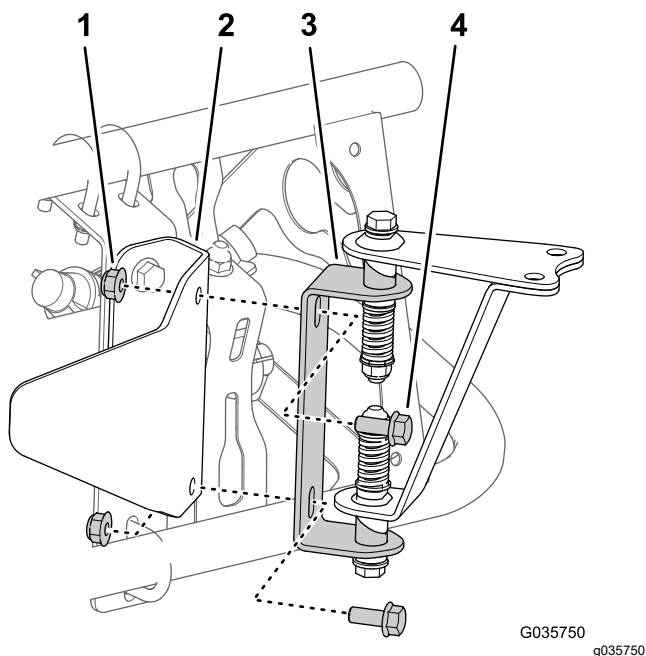
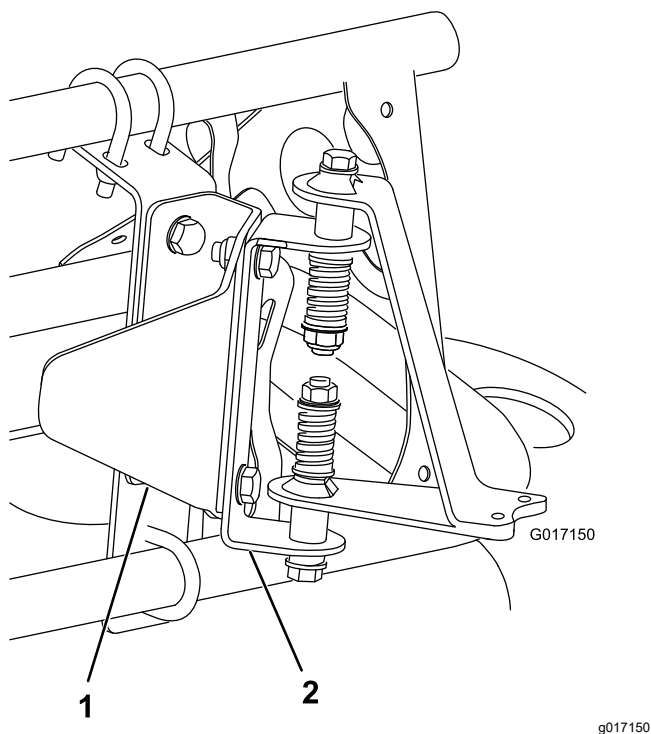

Figure 17
Figure 18
3. Install the sensor mounting hardware onto the sensor guard bracket with 2 bolts (5/16 x 3/4 inch) and 2 locknuts (5/16 inch) as shown in Figure 17 (for an uncovered boom) or Figure 18 (for a covered boom).